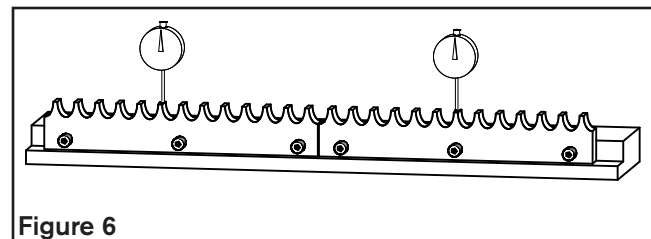

Figure 6
10. Measure the distance from tooth peak to mounting surface at multiple points along each section of the rack to ensure they are parallel within  $\pm 0.02$  mm [0.0008 in]. (Figure 6)